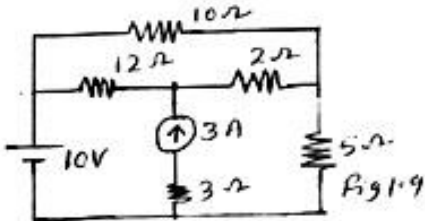

Fig 1.9
13. Find the current through 10Ω & 5Ω resistor in the circuit shown in fig.1.9.